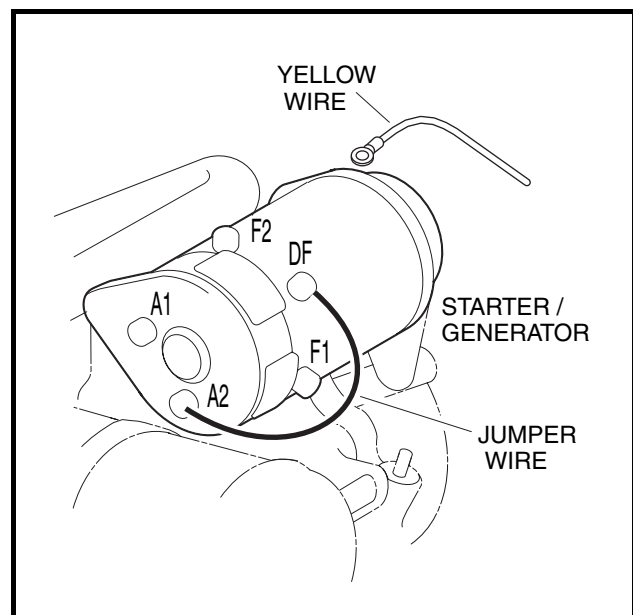

Figure 11-18 Jumper Wire Ground – DF to A2
3. Disconnect the yellow wire from the DF terminal on the starter/generator. Cover the connector on the yellow wire to make sure the yellow wire will not short to ground. Then, using a jumper wire, ground the DF terminal to the A2 terminal (**Figure 11-18, Page 11-19**).